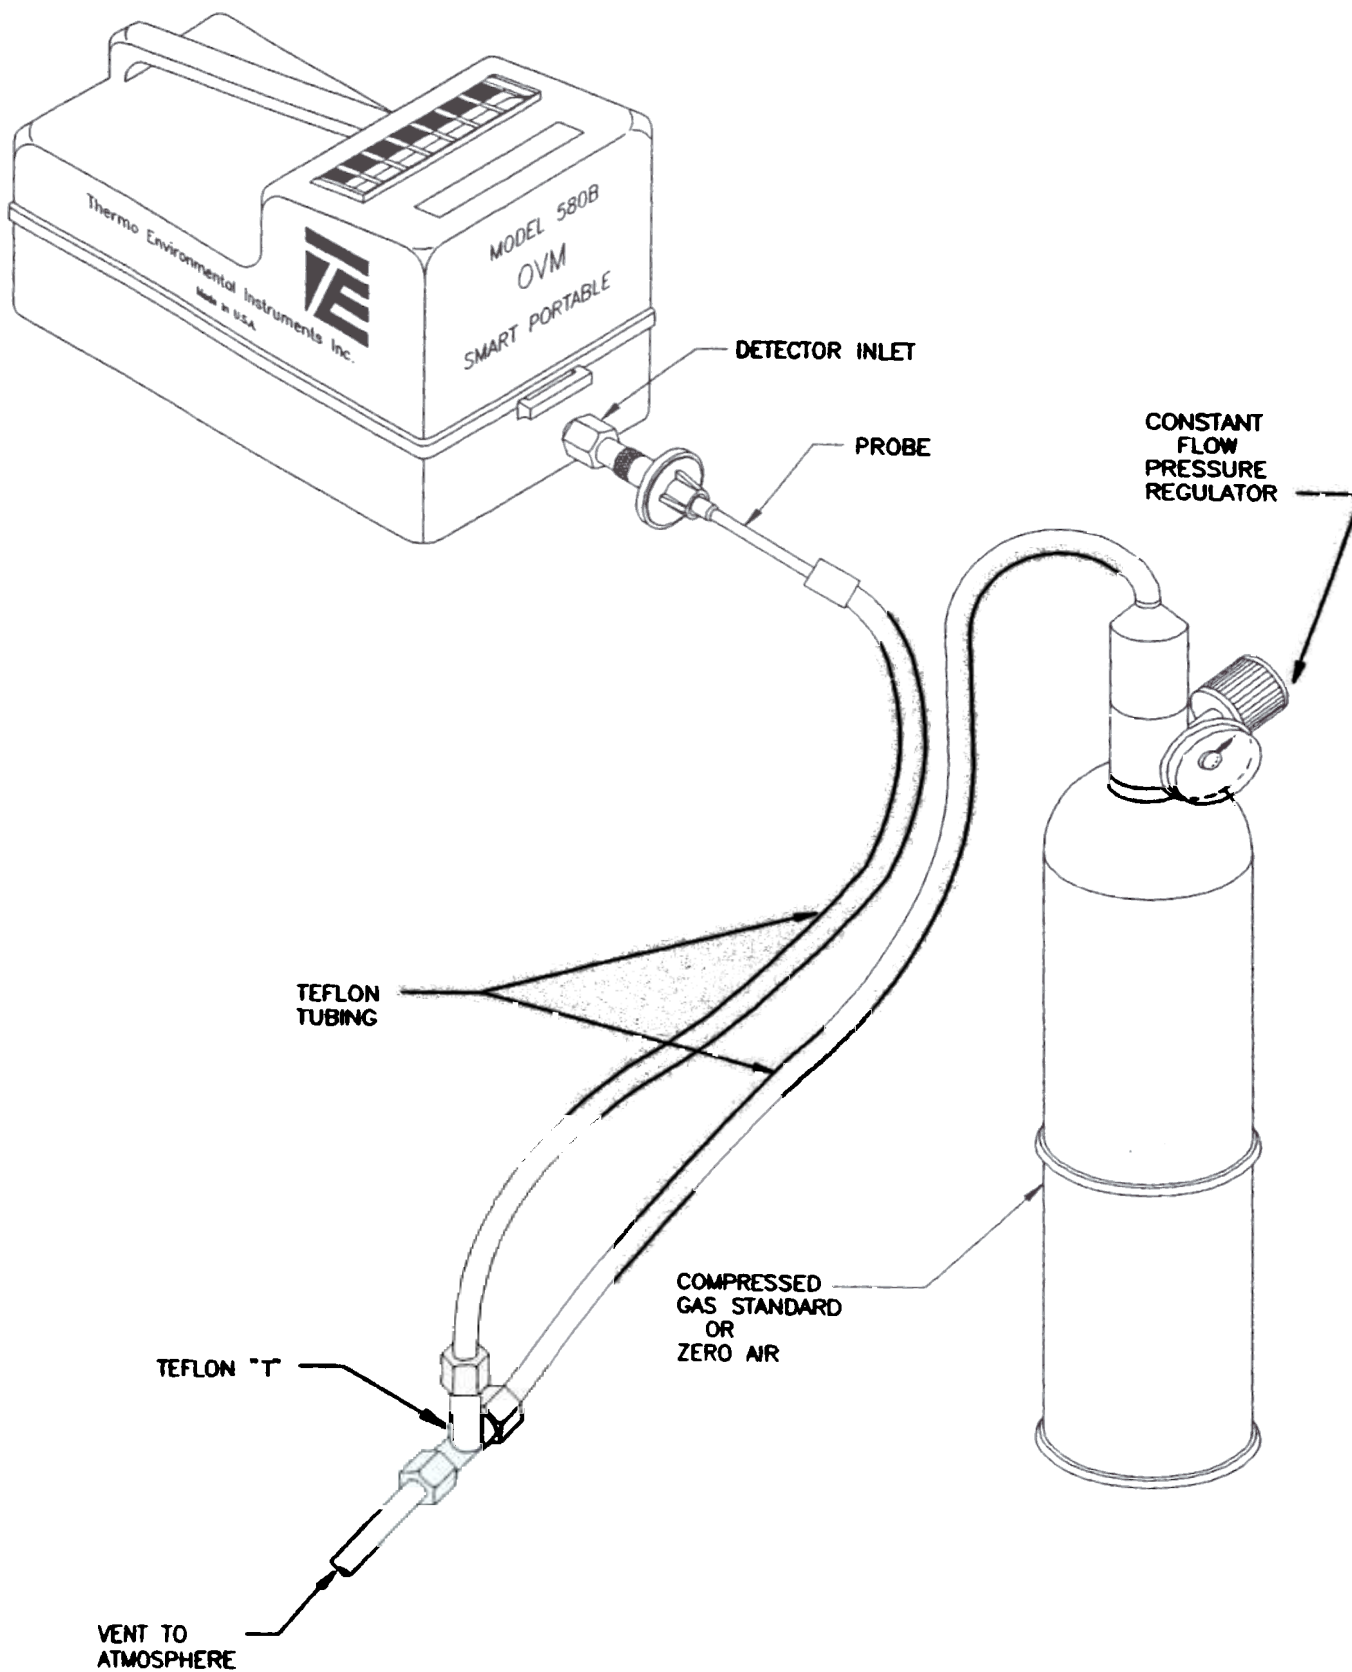

Figure 4.1
However, some gases are sufficiently reactive that chemical reaction of the gas will cause a reduction of it in air. These precautions must be observed when using commercially prepared standards for calibration of the Model 580B. It is for this reason that isobutylene in air was chosen as a reference standard for factory calibration. TEI offers a cylinder standard which includes both zero and isobutylene standards. A constant flow pressure regulator sets the flow needed for calibration of the 580B. Figure 4.1 illustrates the physical calibration procedure. The inlet to the 580B is connected to the "T" as shown. It is important that this connection is tangent to the gas flow. The "T" is connected to the regulator on the standard cylinder. It is important that a length of tubing is attached to the "T" location. This prevents diffusion of ambient air into sample line. The regulator and tubing assembly will have to be moved between both the zero air and standard cylinder.
The following procedure is applicable for both Cylinder and Bag Standards. The sequence requires both Zero gas and Span gas to be used. Span gas can be either contained as a cylinder or bag, in either case the exact concentration used must be known. This concentration will be entered to the 580 when the program provides its entry. With respect to Zero gas, there are several choices. Obviously a certified zero air standard in a cylinder presents no problem. Another choice would be to build a zero air standard in a bag. This can be simply accomplished with the set-up in Figures 4.1 and 4.2 using a charcoal scrubber to remove all the hydrocarbons present in the air. Charcoal does not absorb Methane; this does not cause a problem because the PID does not respond to it. Another approach which could be used in an emergency is to use room air unscrubbed.
This is acceptable if you know that there are no hydrocarbons present or they are exceptionally low in concentration. However, it is not recommended as a standard practice. The physical set up for cylinder calibration is illustrated in Figure 4.1; bag calibration in Figure 4.2.
- (A) Set-up calibration assembly with zero air cylinder or bag as described in Figures 4.1 and 4.2.
- (B) Model 580B set-up and zero calibration.